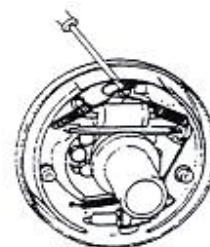

Figure 2-17
(2) Remove the return spring on the shoe. See figure 2-17